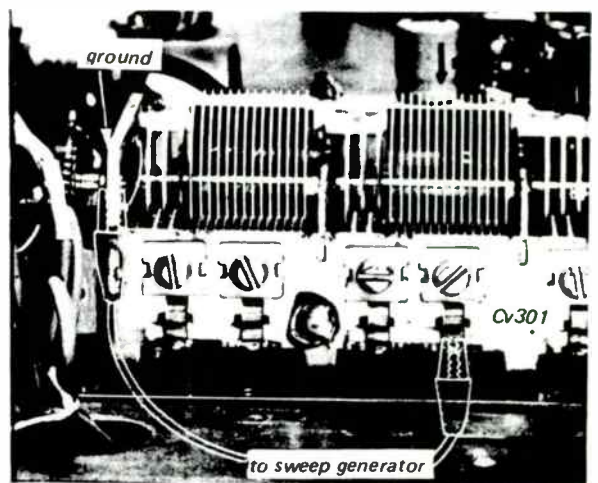

Fig. 3-10 445 kHz sweep signal injection
- Connect the sweep generator's output across (variable capacitor) Cv301 as shown in Fig. 3-10.
2. Connect the rf signal-generator's output across variable capacitor, Cv301 as shown in Fig. 3-10.